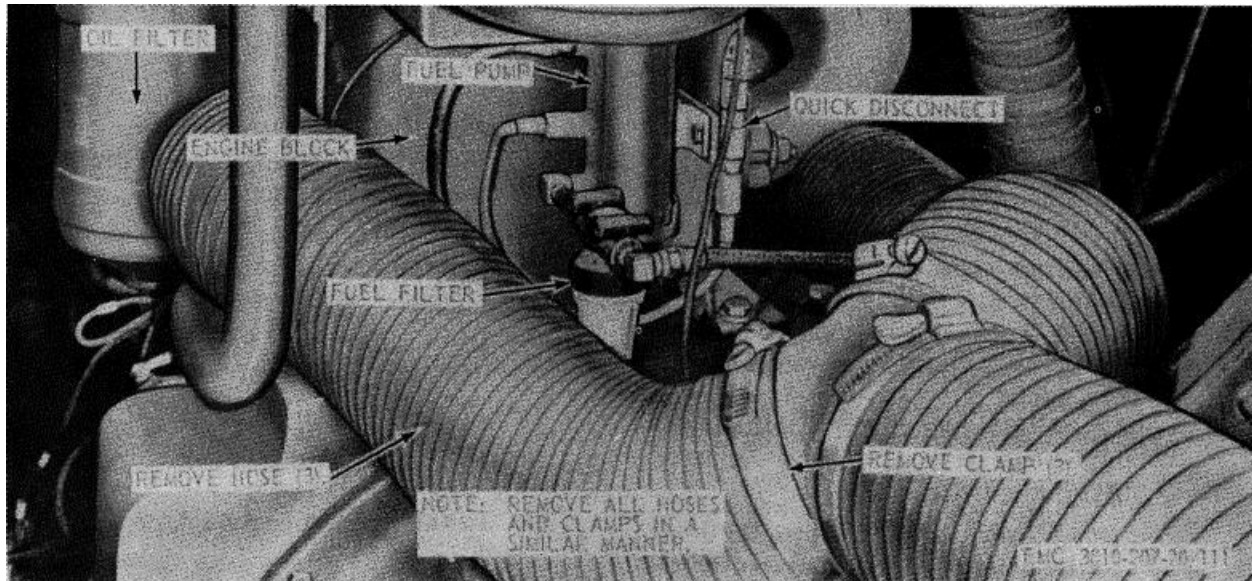

Figure 111. Hoses and clamps, removal and installation.
a. Removal. Remove the heater hoses and clamps as instructed on figure 111.
- (1) Clean all parts with a cloth dampened with an approved cleaning solvent and dry thoroughly.
- (2) Inspect the hose for torn insulation or kinks. Repair or replace hose as necessary.
- (3) Inspect all mounting hardware for damage. Repair or replace all damaged hardware.
c. Installation. Install the hoses and clamps as illustrated on figure 111.